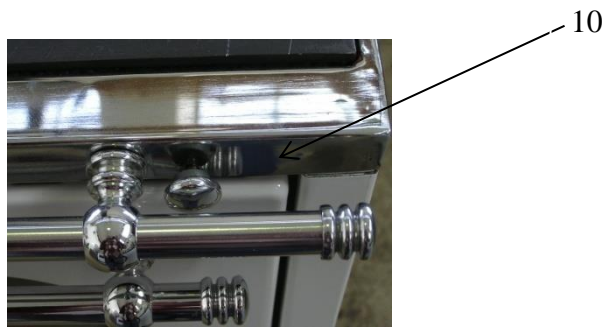

Fig. 3
Moving of the heating flap is performed by activating the knob (figure 3, position 10) which is positioned above the oven door. It is used for shortening of the path of flue gases during stoking. Open the heating flap only in a stage of kindling of the stove.
- * Open the primary air regulator at the highest level of air release (figure 3, position 9)